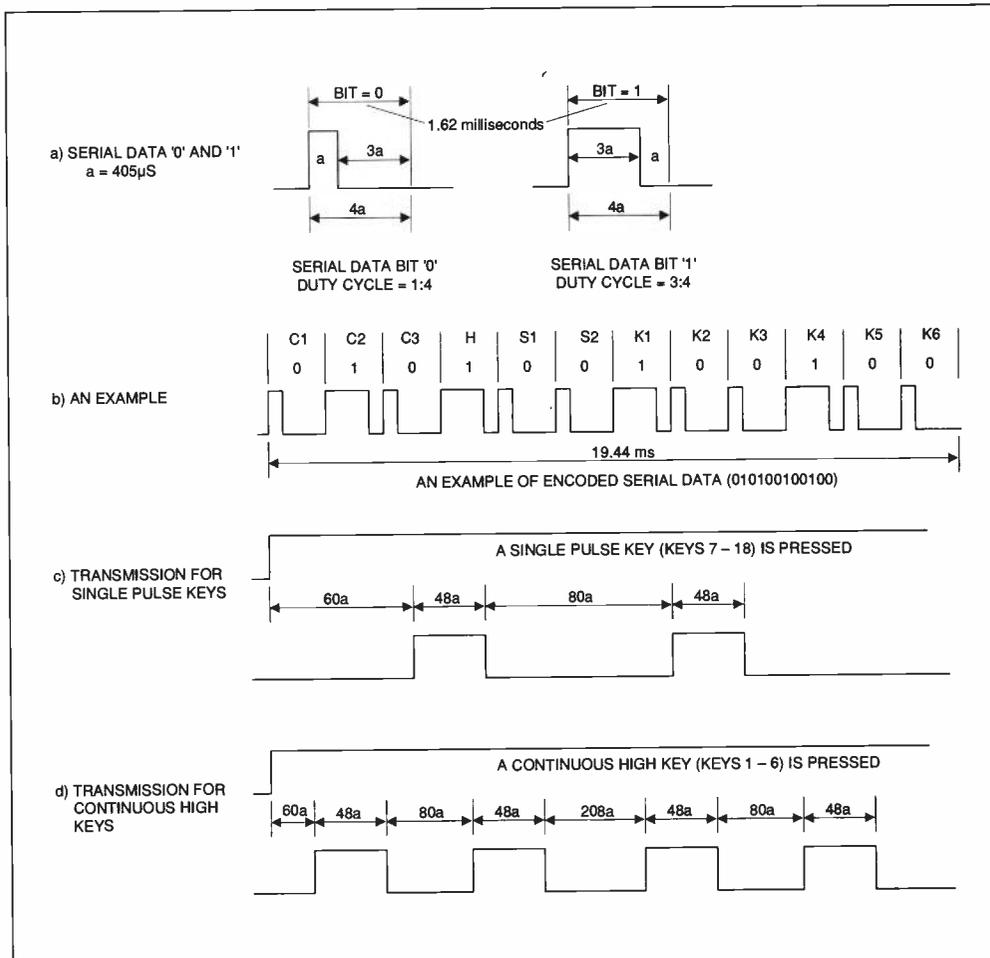

**Figure 4: the circuit diagram of the remote control transmitter**
The circuit of the remote control handset is given in figure 4. It consists of a BL9148 encoder, a 3 x 6 key matrix, a 455-kHz ceramic resonator, one infra-red emitting LED and two transistors which drive the LED.
From figure 4 we see that pin 16 and pin 1 of the ic are connected to the positive and negative rails of a power supply. Pin 4 to pin 9 (K1 to K6) and pin 10 to pin 12 (T1 to T3) form a 6 x 3 scanning key matrix. Pin 13 (CODE) is used to set a user address of the handset. Pin 15 (TX) is the data output which is a stream of burst of the 38-kHz carrier signal. When no key is pressed, the TX line is always at logic high state. The 455-kHz